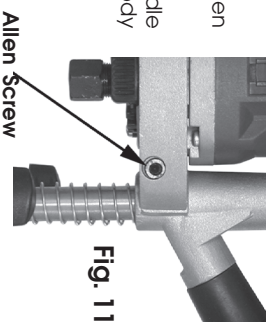

Fig. 11
3. Using hexagonal key on depth gauge rod, loosen allen screw, (see Fig. 11).